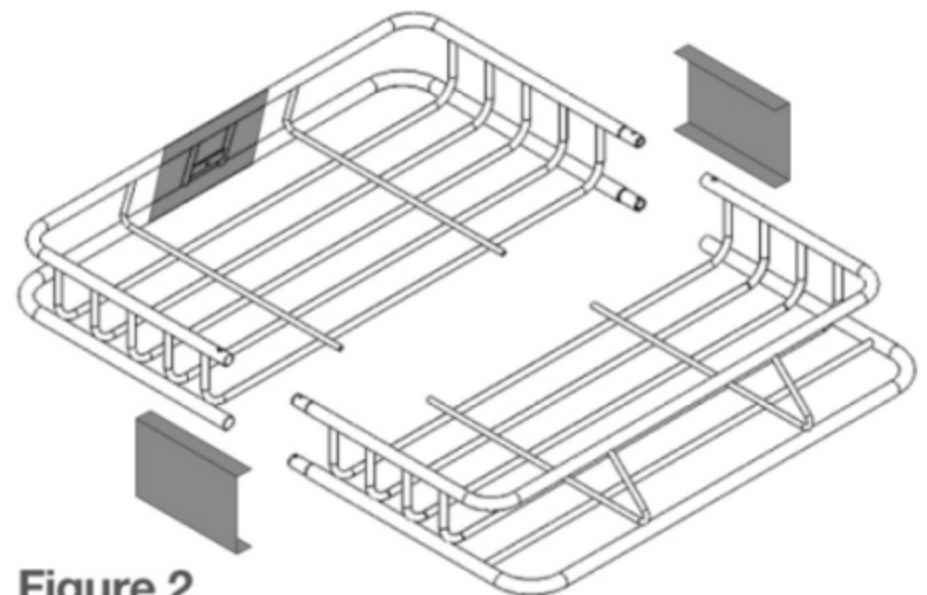

Figure 2
- 2) Attach the side plates (10) to the rack sides using M6X15 screws (7) and one rear plate (Item 9) to the rear of the basket using one M6X15 (7) and one NUT (Item 8), as shown in **Figure 2**.